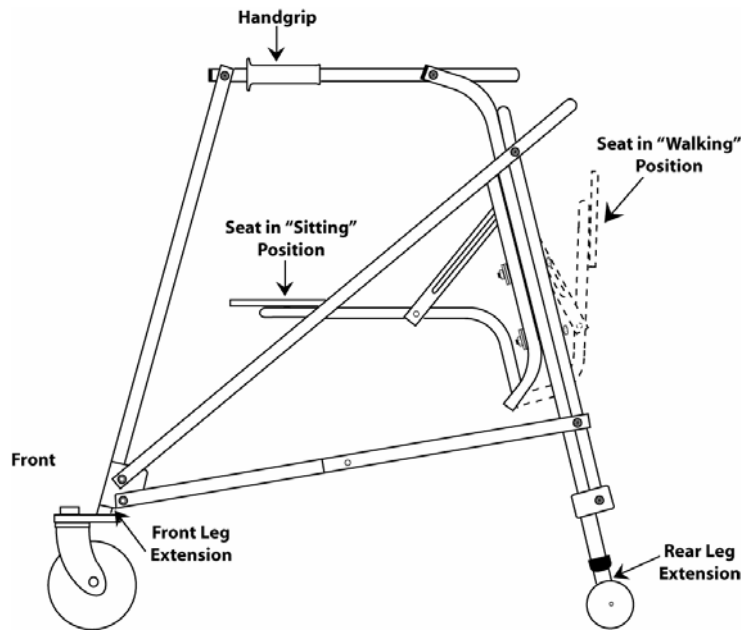

Figure 7: Side View of Walker
1. The front legs have either swivel wheels or straight wheels that rotate forward and backward. Install the front leg wheel with the orange sticker into the front, left side of the frame. Install the other front leg wheel into the front, right side of the frame. See figure 7.